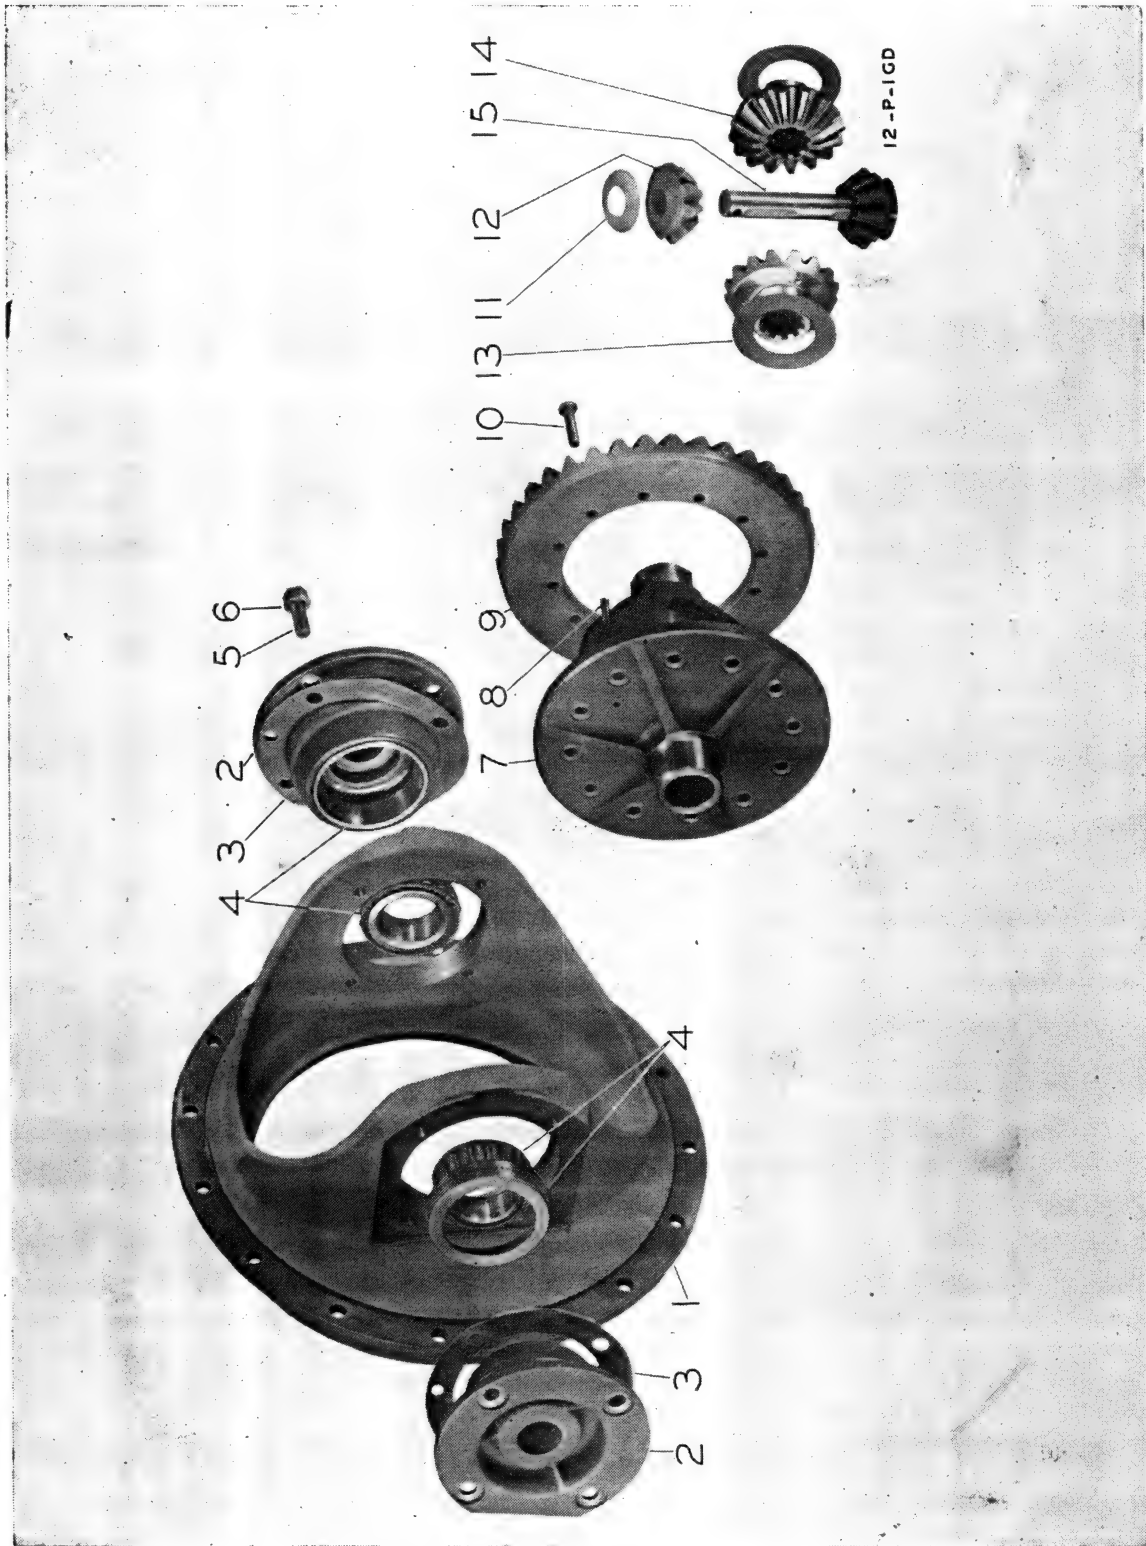

Figure 21 — Differential Housing, Differential Assembly and Parts
## DIFFERENTIAL HOUSING, DIFFERENTIAL ASSEMBLY AND PARTS (Fig. 21)
**DRIVE AXLE ASSEMBLY AND PARTS (Fig. 21-A)**